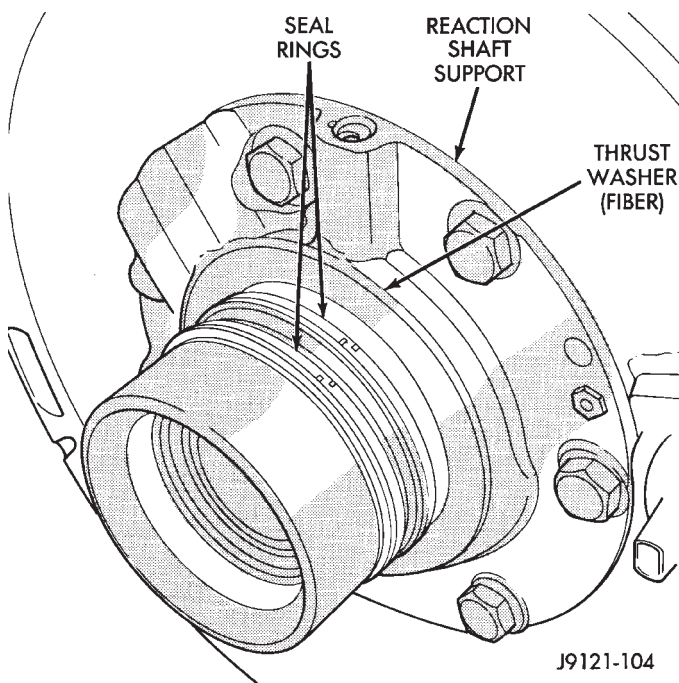

Fig. 149 Reaction Shaft Seal Ring And Thrust Washer Installation—46RH
(31) Check seal rings on reaction shaft support. Be sure rings are hooked together correctly. Also be sure fiber thrust washer is in position (Fig. 149). Use petroleum jelly to hold washer in place if necessary.